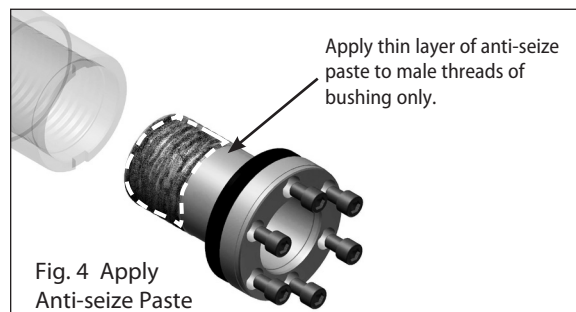

Fig. 4 Apply Anti-seize Paste
Step 4 – Apply a thin layer of anti-seize paste to the male threads of the Taper-Grip® Bushing only (see Fig.4). Based on tests, Sumitomo recommends Bostik Never-Seez Regular Grade or equivalent. Ensure that anti-seize paste does not enter the Taper-Grip® Bushing bore.